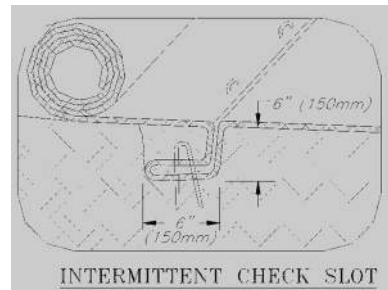
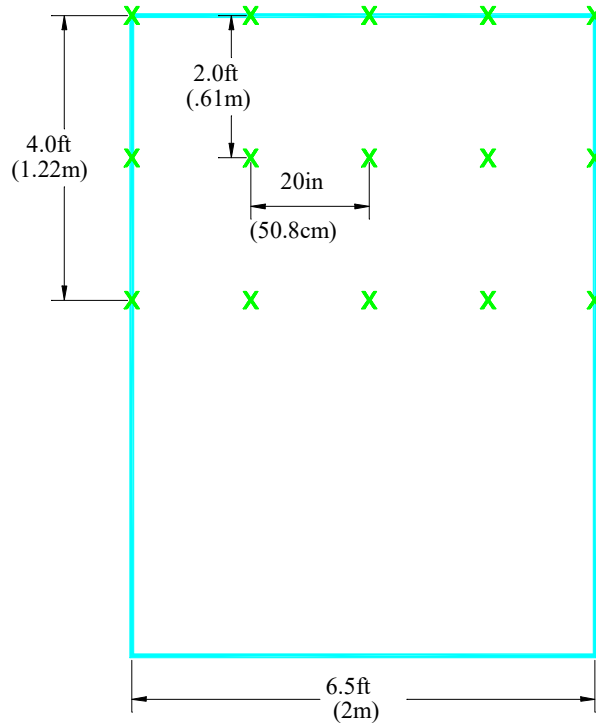

Fig. 1D
Fig. 3 High Kinetic Energy Erosion Control Blanket Installation
- D. In channel applications, a staple check slot is recommended at midway or 30' to 40' intervals (Fig. 1D) and the center of the blankets shall be secured using a minimum of staple pattern 'D' (Fig. 3).